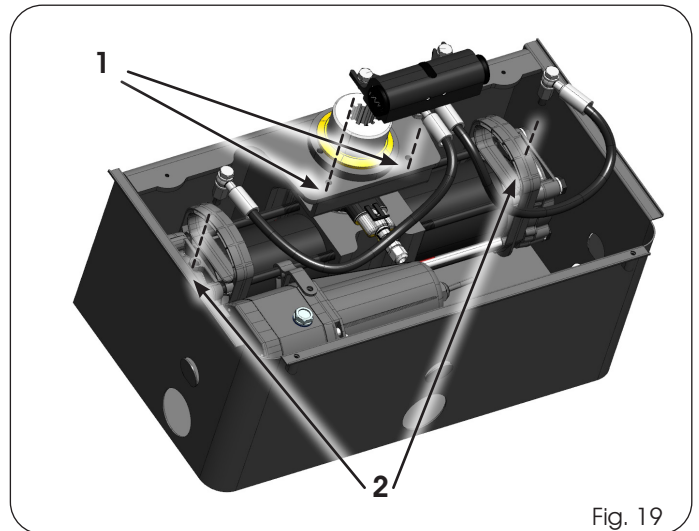

Fig. 19
7. Fasten the external release body to the load bearing box system using the two supplied M8 screws (Fig. 19 ref. 1)